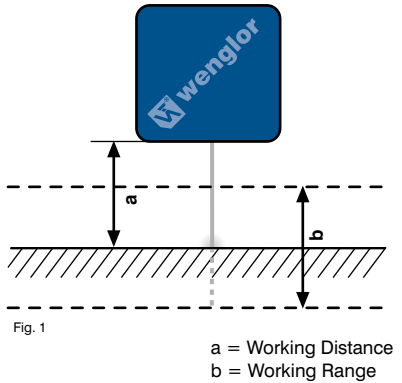

Fig. 1
- Mount the laser gloss Sensor directly above, and align it to the surface of the object to be scanned at a distance equal to the ideal scanning range (see fig. 1).